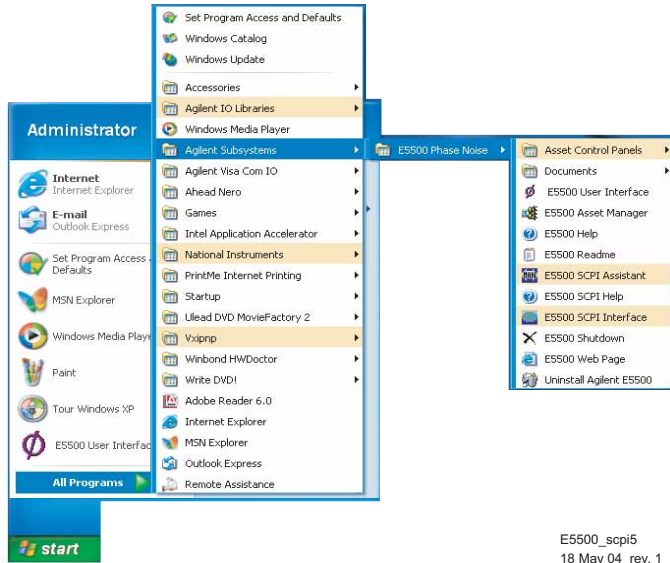

Figure 3 Navigate to SCPI interface
- 1 Use the Windows start menu as in Figure 3 to navigate to SCPI Interface.